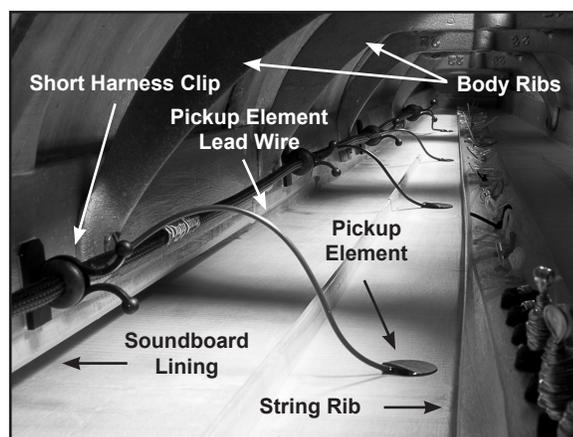

Figure 5 – Installed Pickup in Lyon and Healy harp
- The goal is to attach the harness in a location that allows the pickup elements to be glued in the marked locations without putting the lead wires under tension. (See figure 5 for an example.)
- Figure 5 shows an installed pickup in a Lyon and Healy harp using four short harness clips attached to the soundboard lining between the aluminum body ribs. Venus harps will be similar.